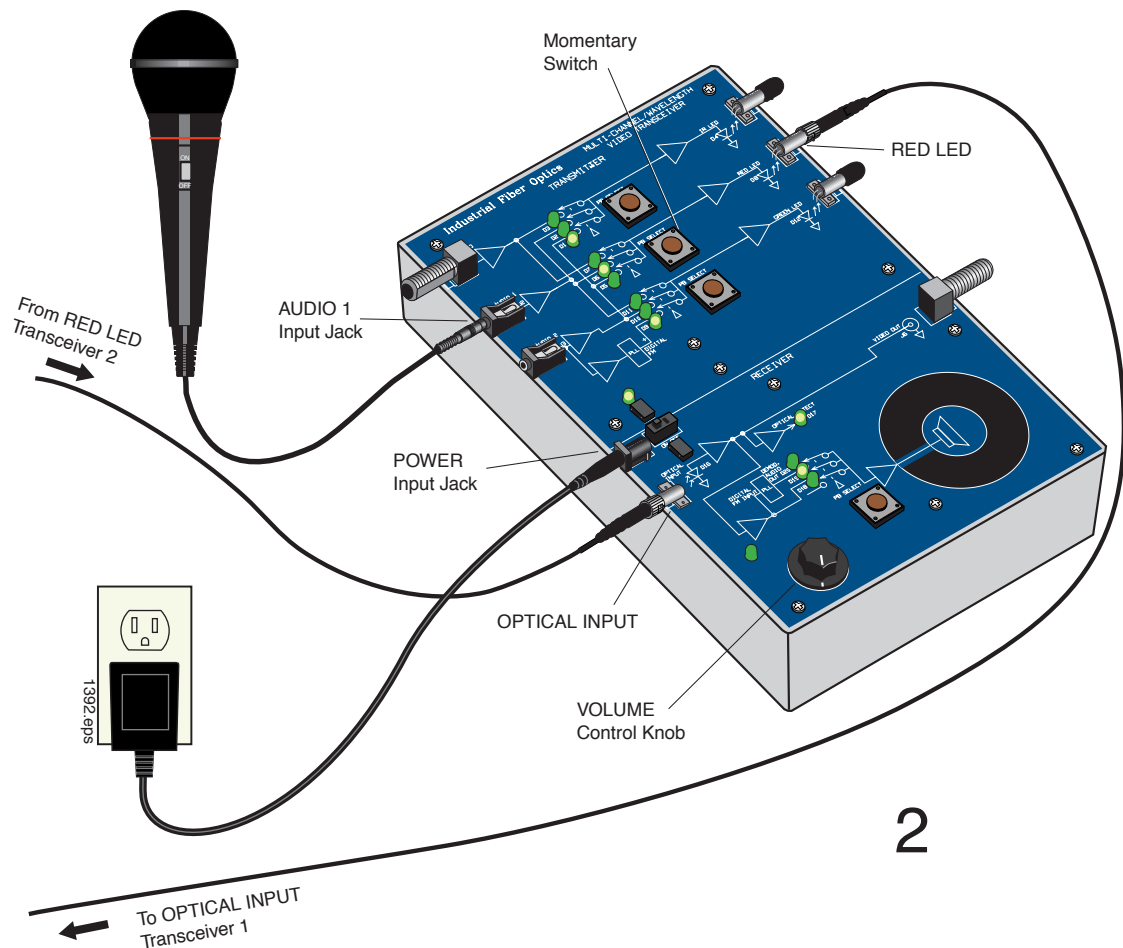

Figure 4. Equipment set-up for Location 2 to complete the Voice Transmission Experiment.
14. Your equipment set-up at this location should look like Figure 4 when completed. You may wish to reference this figure as you complete the following steps.